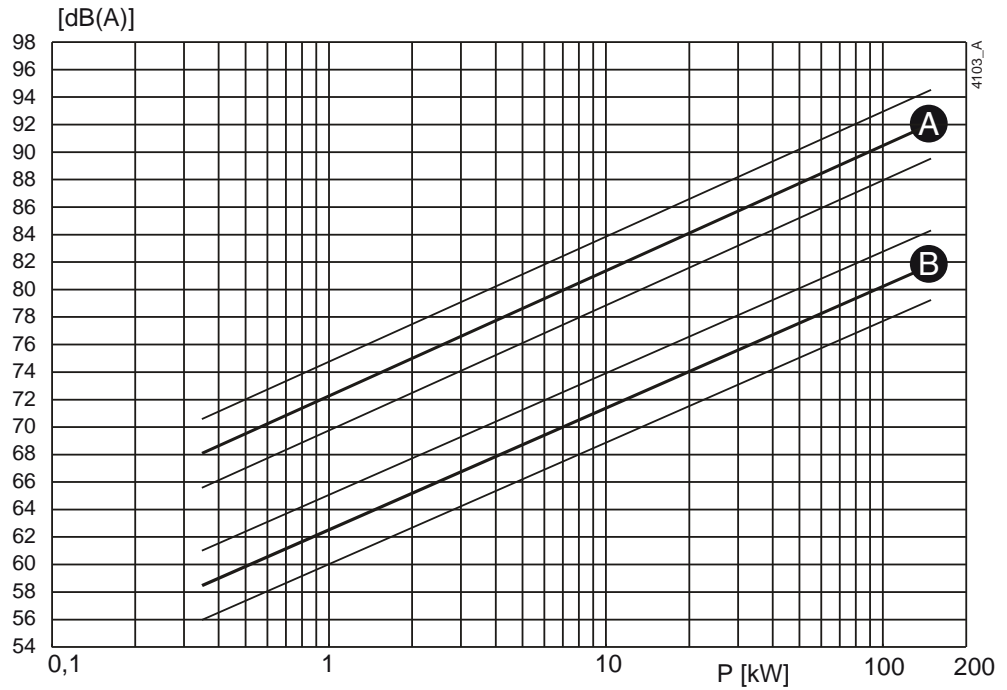
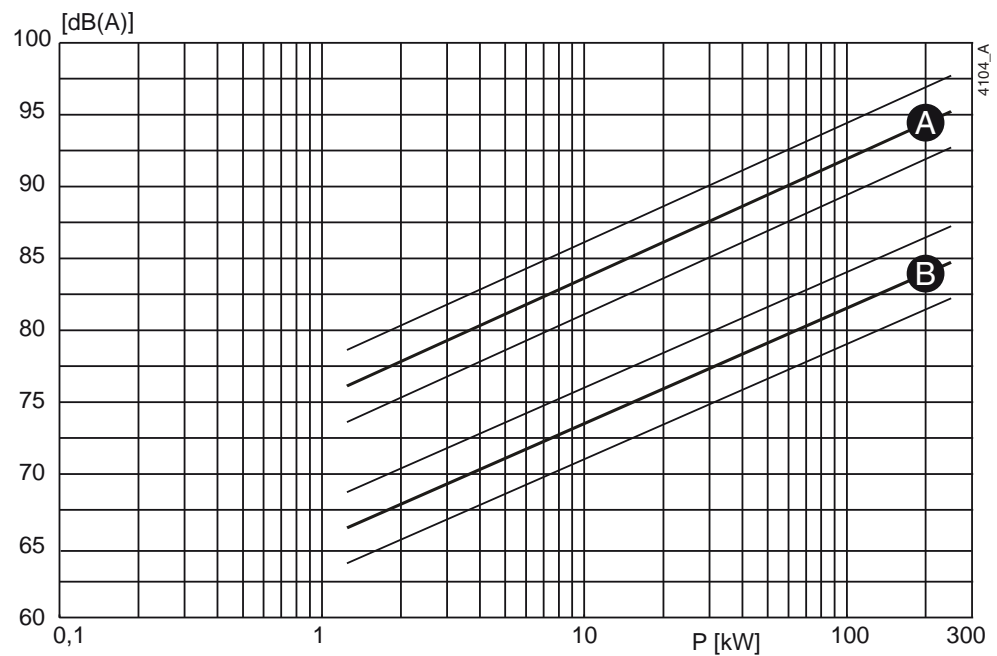

Figure 41: Noise level as function of pump power [kW] at  $1450 \text{ min}^{-1}$
Figure 42: Noise level as function of pump power [kW] at  $2900 \text{ min}^{-1}$
- 1 Determine the noise level ( $L_1$ ) of the pump, see figure 41 or figure 42.